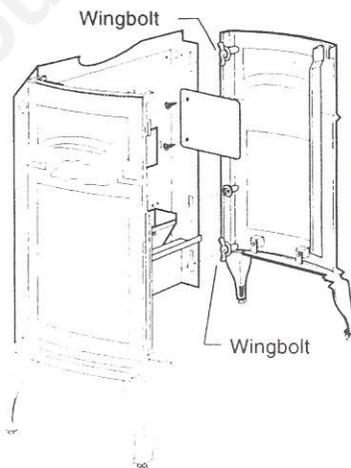
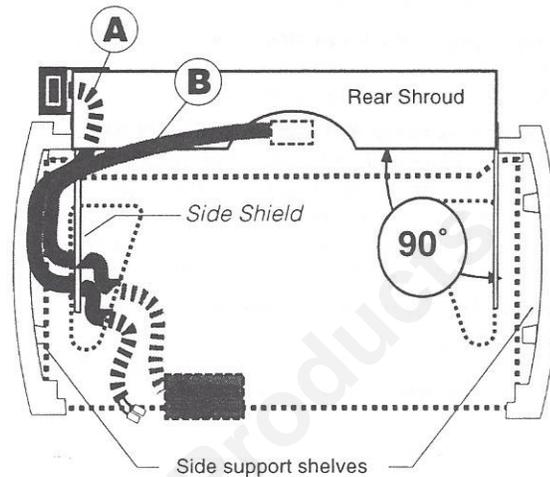
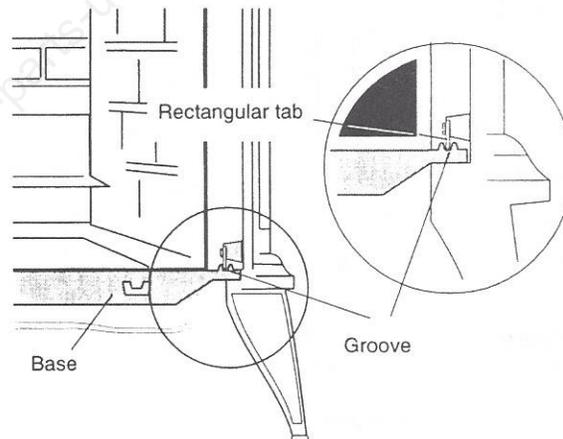

Figure 10. Fasten Right End to the rear shroud.
Figure 13. Locate both Wire Harnesses between the Side Shield and the Left Side Plate.
Figure 14. Install the Firebox Assembly. Be sure that the tabs on the stove sides engage the grooves on both ends of the Base.
- 3. Attach the Right Side Plate to the Rear Shroud.** Figure 10. Move this assembly close to the stove's final position. Align the two side plates at right angles to the Back Panel as in Figure 13.
5. Position the wire harness between the Side Plate and the Side Shield. See Figs. 13.
1. Before lifting the firebox into place, be sure that the Rear Shroud and Side Plates are properly aligned at 90° to each other. See Fig. 13.
2. Lift the firebox assembly and slide it into the shell assembly, resting the base of the firebox on the side support shelves as in Figures 13 and 14. Each Side Plate has two steel retainer tabs that engage the rail in the left and right edges of the firebox Base as shown in Figure 14. Properly positioned, the firebox will be level and locked in place. If not, adjust the levelling screw in the foot of each leg. The levelers should not extend further than may be necessary to accommodate irregular surfaces and bring the assembly together.
3. **Locate both Wire Harnesses between the Side Plate and Heat Shield** as shown in Fig. 13. The *Off/On Switch* harness should be located behind the heat shield and routed down through the hole in the firebox Base for connection to the Control Valve.
3. Remove the hex nuts (B) from the two mounting studs located at the lower center of the rear shroud. Fig. 13.